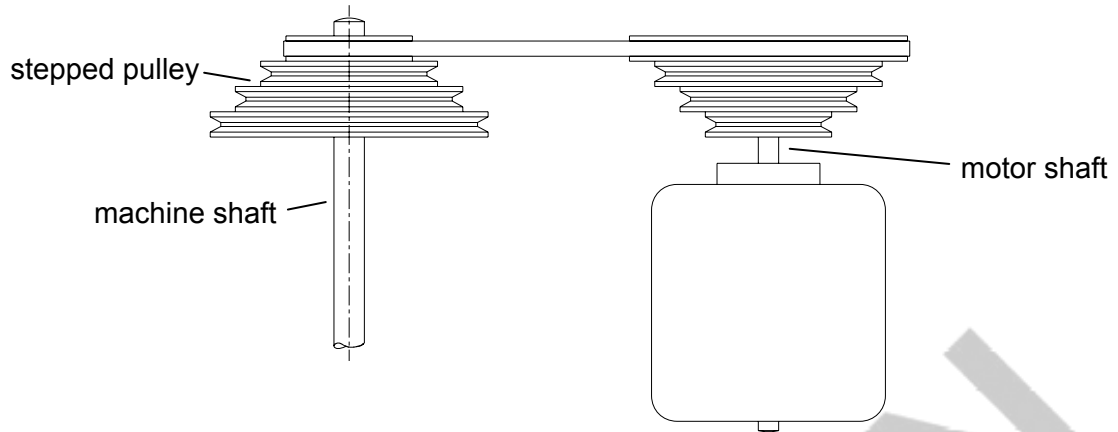

Fig. 6
(b) Fig. 6 shows drive system **C** being used to take the drive from a motor to a machine shaft.
- (ii) Use notes and sketches to show how the stepped pulley in Fig. 6 could be fixed to the machine shaft.